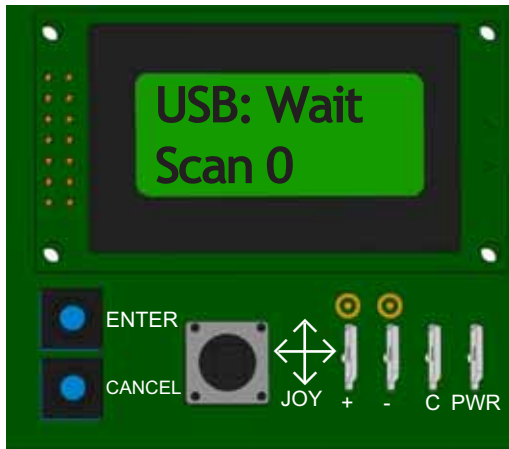

Figure 6 - USB connection display
- Connect your flash drive to the USB port on the UCB. USB: Wait appears on the LCD. See Figure 6.